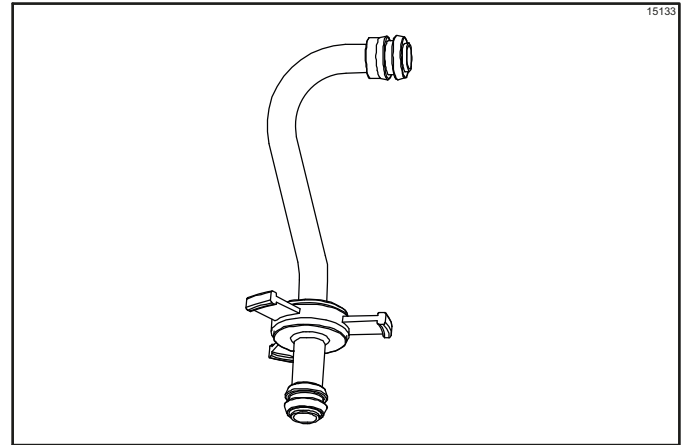

Figure 6-29
10. Assemble the feed tube assembly. Slide the check ring into the groove of the feed tube. (See Figure 6-29.)